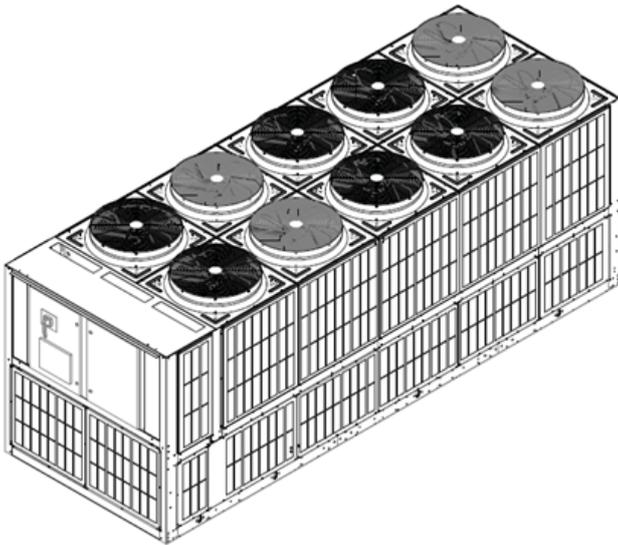

FIG. 3 – FULL UNIT LOUVERED PANELS
**LOUVERED PANELS** – Louvered panels, painted the same colour as the unit, enclose the unit to visually screen and protect the coils as well as preventing unauthorized access to internal components. Also available as a condenser-only option. See Figures 3 and 4.